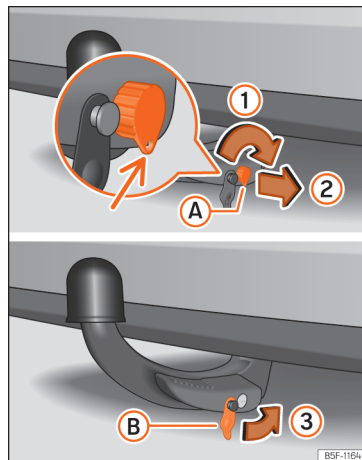

Fig. 173 Putting the tow hook in place. Step 2.
- Turn the key to the right just half a turn, until the hole in the key faces downwards »» Fig. 173 (1).
- Remove the key (2).
- Place the cover (B) on the lock (3) »» Fig. 173 »» ⚠.